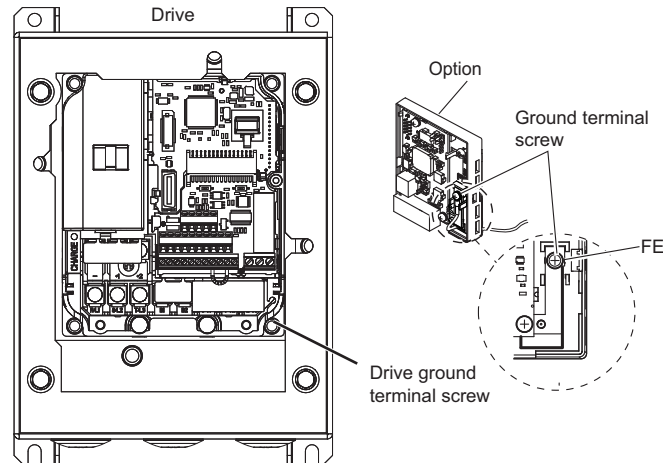

Figure 16 Remove IP66/UL Type 4X Ground Terminal Screw
- 13.** For IP66/UL Type 4X enclosure models, remove the drive ground terminal screw and option ground terminal screw (see Figure 16.)